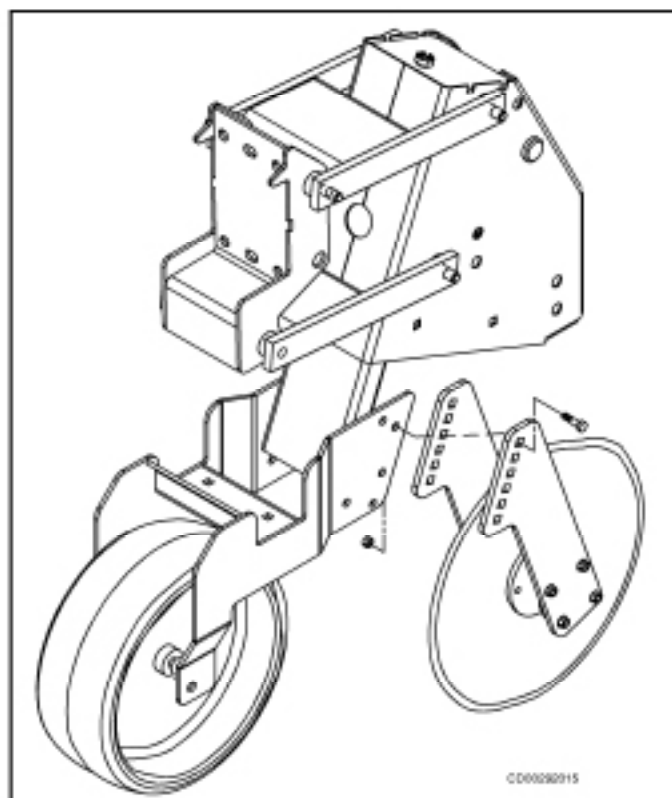

Figure 27 Disc Mount Assembly
2. Mount disc/hub assembly to disc mount arms, using $3/8$ NC $\times 1-1/2$ hex head cap screw as shown in Figure 27.